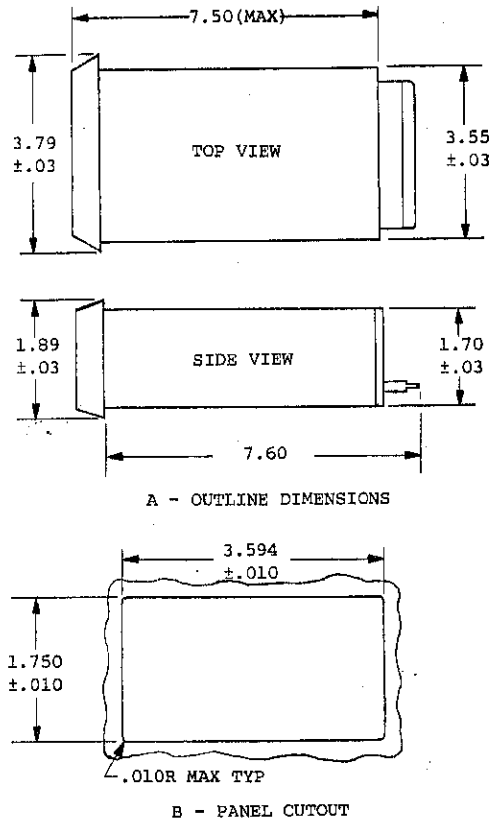

Figure 2-1. Installation Drawings
- a. Cut out hole in panel (B, figure 2-1).